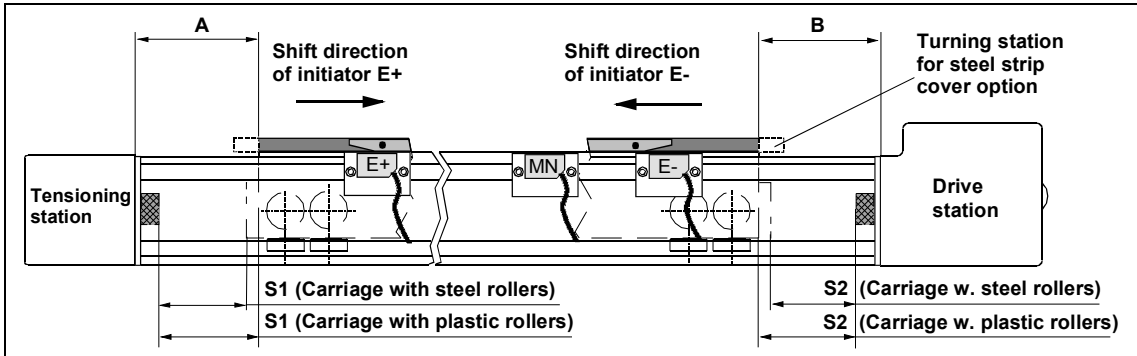

Fig 3: External initiators: Setting up end limits and safety travels
2. Place the limit switches according to the order given in figure 3.
3. E-: Move the carriage with the load attachment plate to the position (size B) given in figure 3 and table 3. Move E- limit switch from the drive station towards the tensioning station until it reacts
4. E+: Move the carriage with the load attachment plate to the position (size A) given in figure 3 and table 3. Move E+ limit switch from the tensioning station towards the drive station until it reacts
The transducer for the machine zero point is fixed with an offset of about 150mm from the E- limit switch in the direction of the clamping station. E+: Move the carriage with the load attachment plate to the position (size A) given in figure 3 and table 3. Move E+ limit switch from the tensioning station towards the drive station until it reacts.